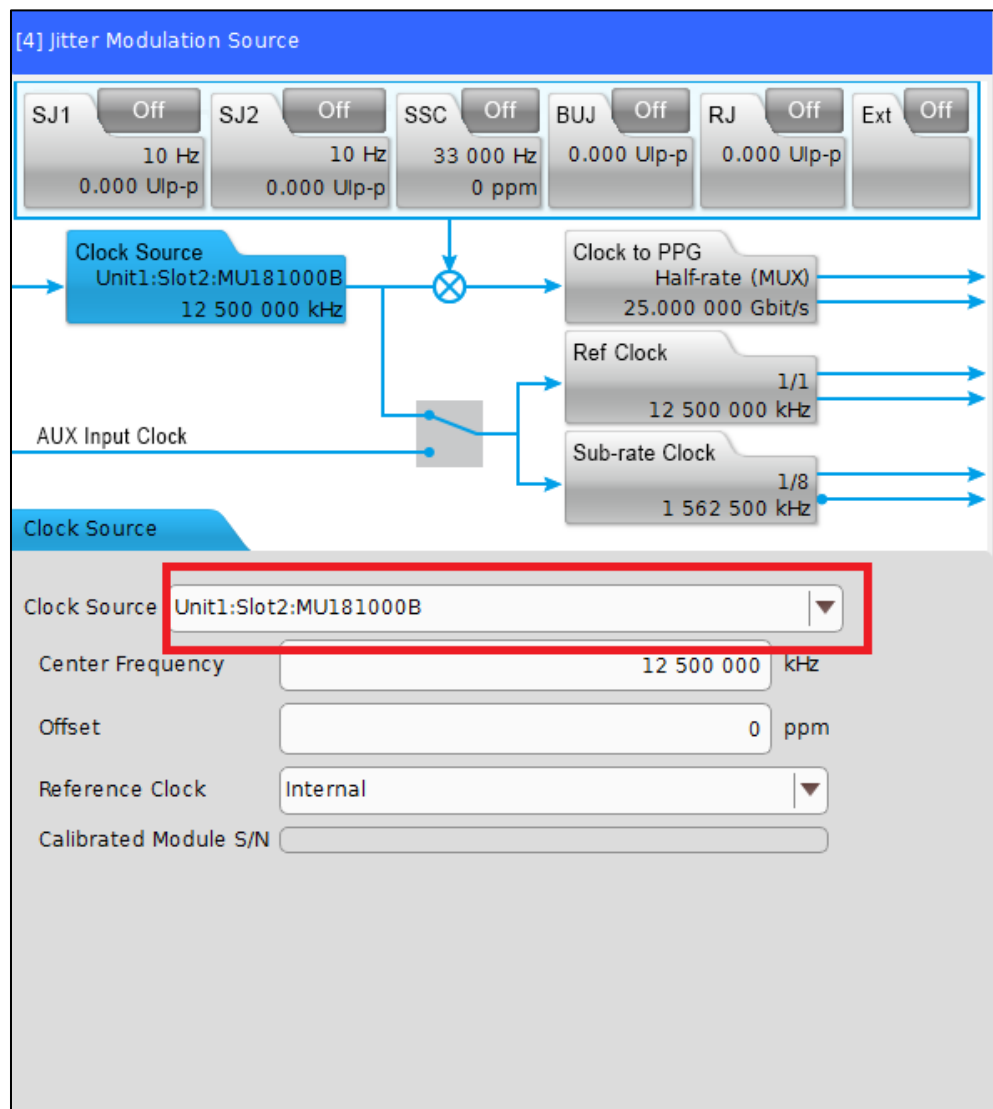

FIGURE 50. JITTER CLOCK SOURCE SETTING
- iii. Go to Jitter tab and set Clock Source to “Unit1:Slot2:MU181000B”. See Figure 50.